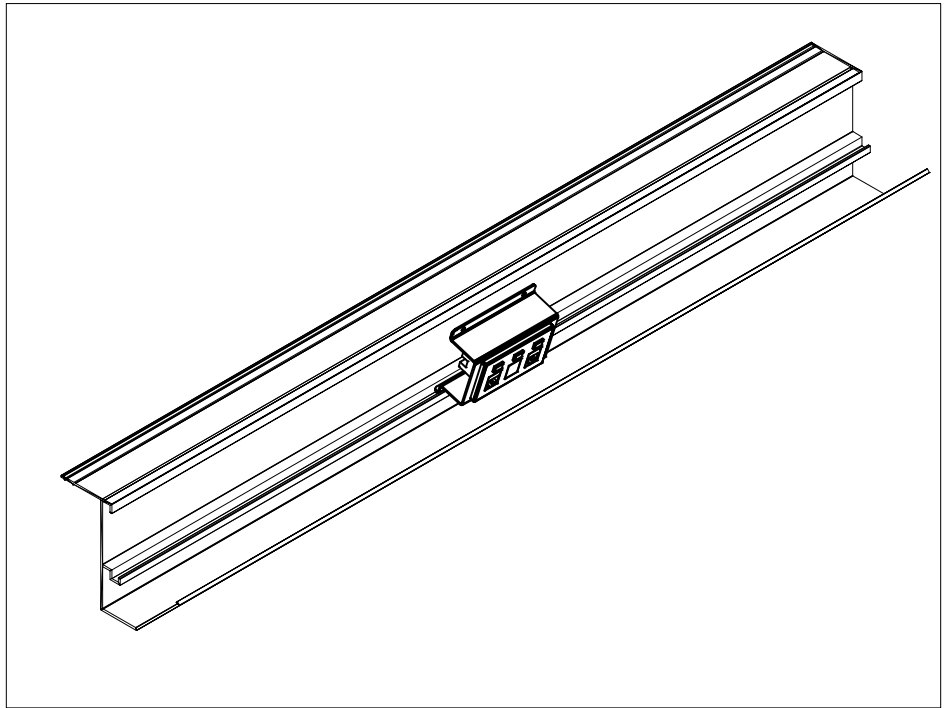

FIGURE 1
1. Insert the bottom edge of the trough mounted communication box, (Figure 1).